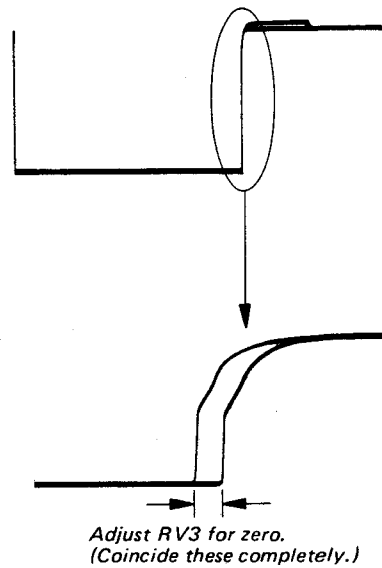

Fig. 5-144.
6. Adjust RV3 on the V board so that these pulses coincide with each other completely as shown in Fig. 5-144. (The oscilloscope time axis should be set at $0.1\mu\text{s}$.)